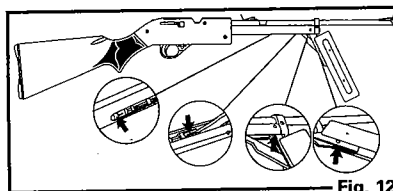

Fig. 12
- Your air rifle will work best if you oil it every 250 shots. Put 2 or 3 drops of Crosman 0241 Lubricating Oil on the pump pivot pins and the pump cup in the pump mechanism. (Fig. 12) A light coat of Crosman 0241 Lubricating Oil on all exposed metal parts helps prevent rust. DO NOT use a petroleum distillate based oil or solvent and DO NOT over-oil as this can cause damage to your air rifle.